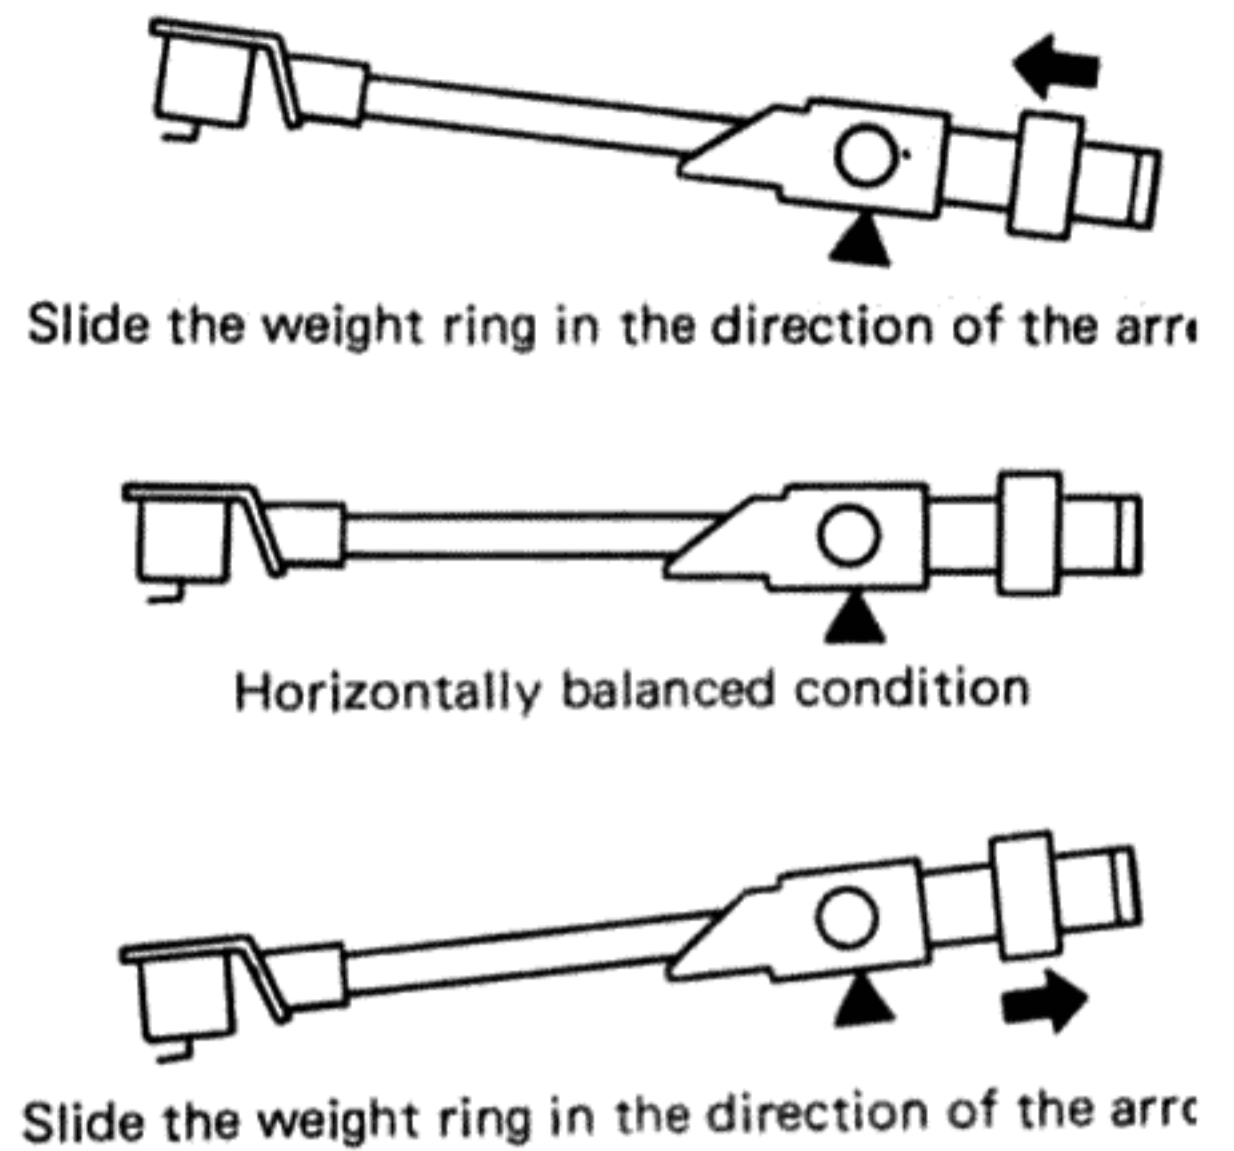

Fig. 13
- (2) Choose the appropriate balance weight ring for the weight of the cartridge to be used (refer to Chart 2) and install it according to the procedures explained previously. With the lifter arm lowered, remove the arm from the arm rest. Next, slide the balance weight ring back and forth precisely locating the position that neutrally balances the arm horizontally. (If the shell side tips down, shift the weight ring to the rear; if the shell side tips up, shift the weight ring forward.) (Fig. 13)